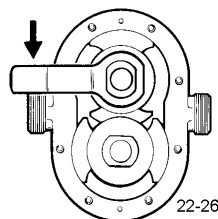

Figure 33 - Remove Rotor Retaining Nuts
4. Remove the rotor retaining nuts. Use the special wrench supplied with the pump and hit the handle sharply with a soft hammer to loosen the nuts (Figure 33).